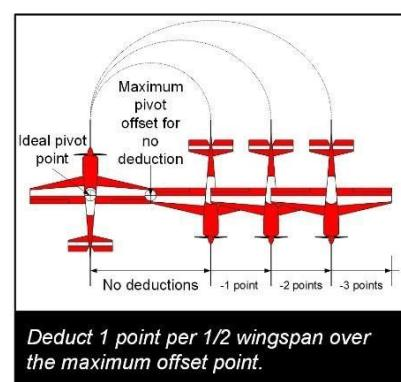

Figure 22
When rotating at the top of the maneuver, ideally, the aircraft pivots around its center of gravity. To avoid a deduction, the aircraft must pivot around an axis point, which cannot be farther away from its center of gravity on the vertical up line than its wingtip ($\frac{1}{2}$ wingspans). The downgrade for this deviation is one (1) point per half wingspan that the point of rotation exceeds the maximum allowed (Fig 22).